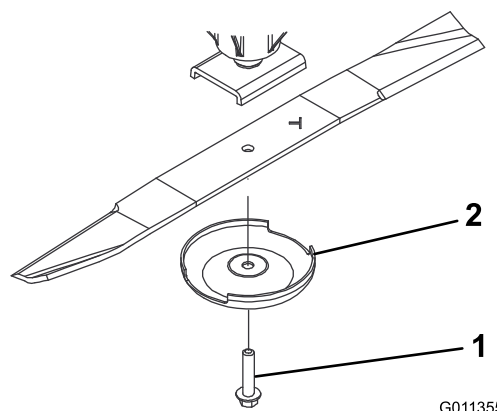

Figure 70
- Grasp the end of the blade using a rag or thickly padded glove and remove the blade bolt, anti-scalp cup, and blade from the spindle shaft (Figure 70).
- Install the blade with the sail facing toward the cutting deck, with the anti-scalp cup and blade bolt (Figure 70).